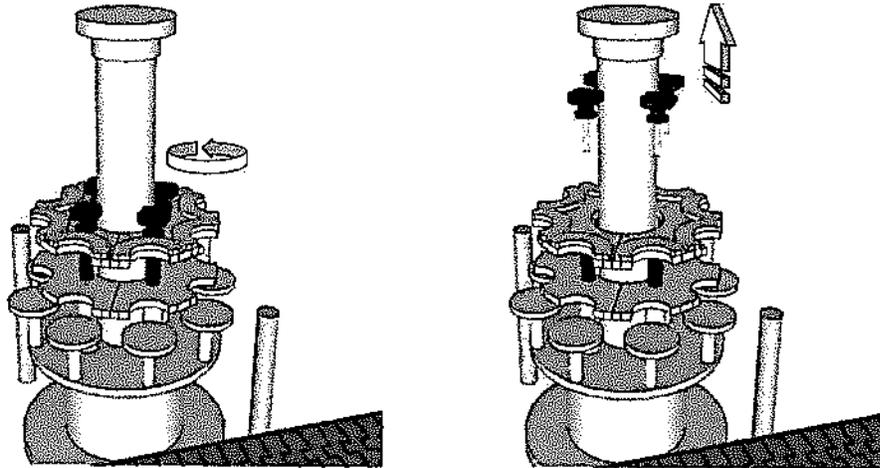

fig.26
- Loosen the starwheel lock handles, turning counterclockwise, and remove them by sliding them upwards (fig.26).